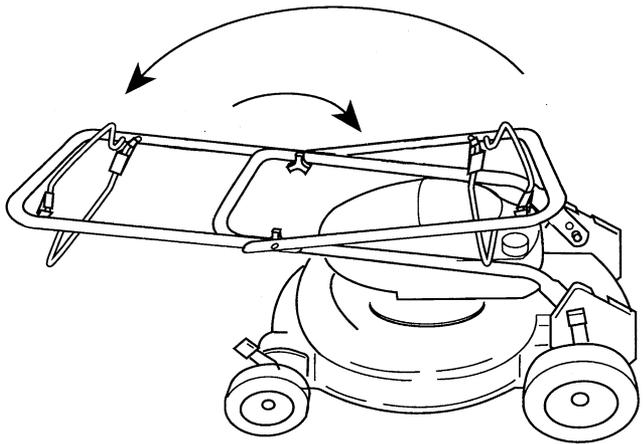

Figure 53
2. Rotate handle toward front of mower (Fig. 53).